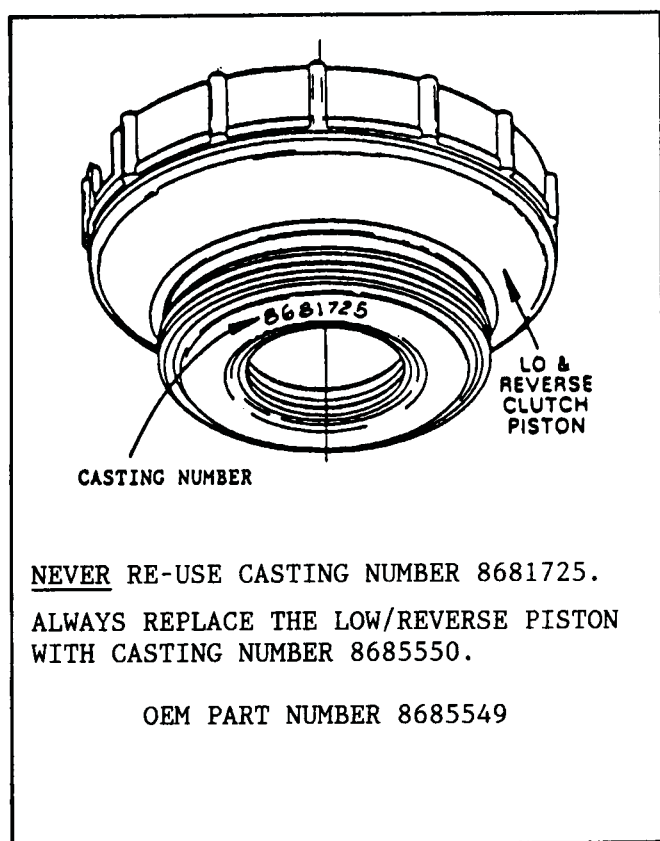

Figure 63
15. Inspect the casting number on the Low/Reverse piston. If it has casting number 8681725, replace it with one that has casting number 8685550. It is available under OEM part number 8685549 (See Figure 63).